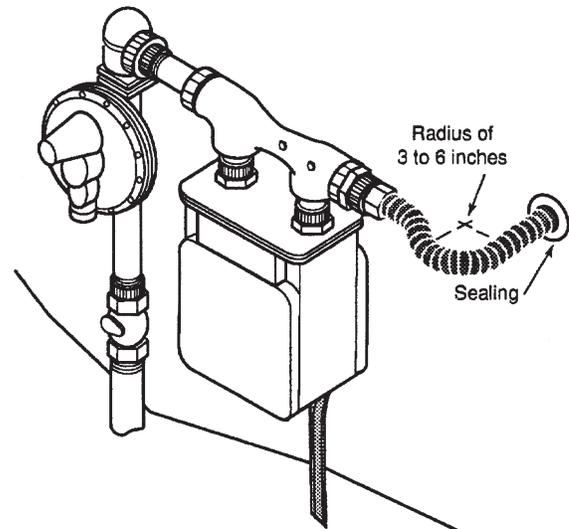

Figure 4-13
2. Meters which are independently supported with a bracket can be directly connected outdoors with **CounterStrike**® (See Figure: 4-13). If practical, direct connections shall include a 3 to 6 inch additional length of tubing to accommodate differential settling and meter movement. No mechanical protection of the tubing is required for outdoor connections. **PRIOR TO INSTALLING CounterStrike® DIRECTLY TO A METER, ENSURE THAT THE LOCAL UTILITY ALLOWS THIS PRACTICE AND METER IS INDEPENDENTLY SUPPORTED** as some utilities have regulations specifying meter attachments. Any exposed sections of stainless steel piping must be wrapped with a silicone self-bonding tape. This is especially important with masonry construction. (Figure: 4-12). A PVC Sleeve is required for **CounterStrike**® penetrations of masonry construction and recommended for wood frame construction.